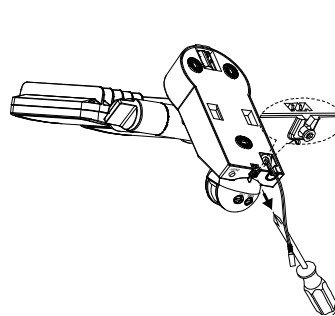

Fig. 1
- Loosen the screw (Fig. 1) of the wall bracket
Please note: Before replacing the battery the switch on the lamp unit must be set to OFF and the solar module must be disconnected from the main unit. To replace the battery, open the cover of the main unit as described in Fig. 1 and 2 in the section "Main Unit". Remove the old batteries from the holder and insert new ones. If possible, charge the rechargeable batteries first using a standard charger for 1.2 V AA NiMH batteries. If unable to charge the batteries with a charger please follow the instructions in the section "CHARGING THE SOLAR LIGHT FOR THE FIRST TIME". Reverse the instructions to re-assemble the device.